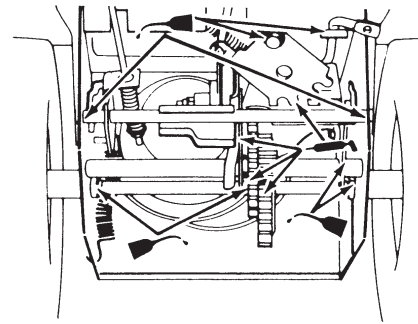

Figure 29
6. Lightly lubricate the snowthrower with light oil as shown in Figure 29.
8. Grease the snowthrower as shown in Figure 29.